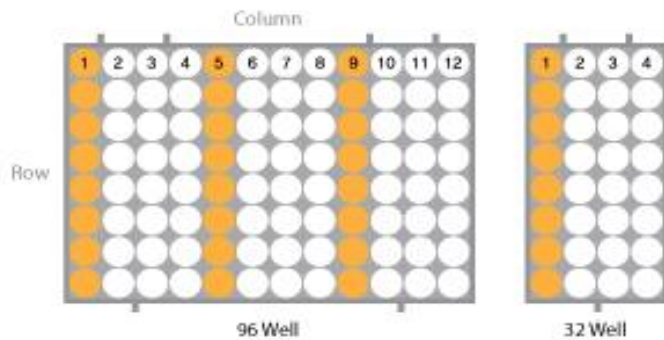

Figure 2: Samples wells (marked in orange) in respect to the Plate type
- Vortex the samples to mix and transfer 200µL of each sample into the sample wells (in a 96 wells plate: apply samples to the 1st, 5th, and 9th columns; in a 32 wells plate: apply samples to the 1st column) of the extraction plate (figure 2).